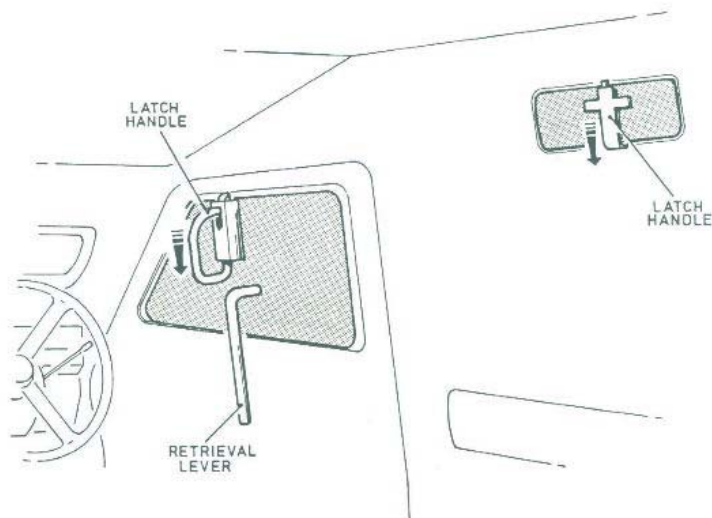

Fig.1-5 Door and gun port hatches
5. Door and gun port hatches (Fig.1-5)